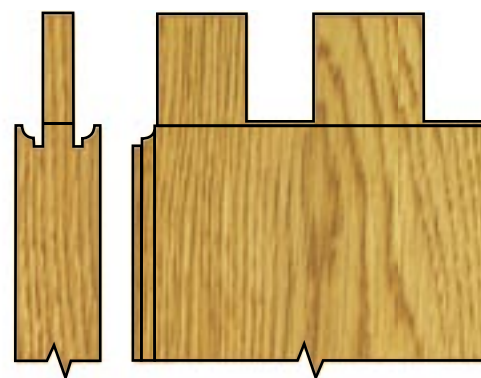

Figure 14
**b)** For wide tenons such as those in the bottom rails, divide the tenon into two parts as shown in Figure 14. Using a band saw, jig saw or coping saw, cut a 1-1/2” space between the tenons.